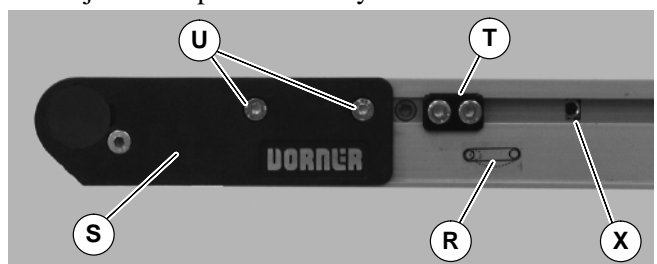
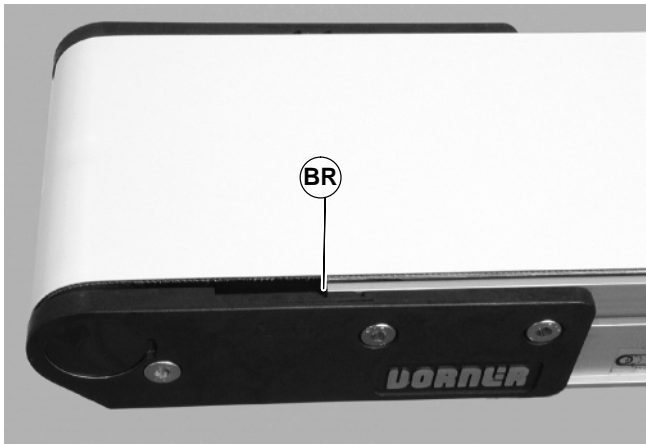

Figure 37
Figure 38
1. On tension end of the conveyor, identified with a  label (R of Figure 37), adjust head plate assembly (S): On both sides of conveyor, loosen fastening screws (U) and rotate pinion gear (X) to adjust head plate assembly.
2. Adjust head plate assembly so end of conveyor frame aligns with first tensioning mark (BR of Figure 38). Tighten fastening screws (U of Figure 37) on both sides of conveyor to 7 Nm.
3. If equipped with cam tracking assemblies (T of Figure 37), reposition against head plates and adjust belt tracking. Refer to “Conveyor Belt Tracking”, page 16.